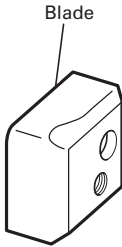

Fig. 6
1. Service life of cutter (Fig. 6)